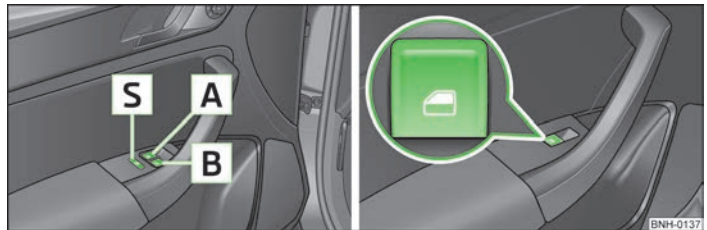

Fig. 17 Buttons on the driver's door/in the rear doors
- It is recommended to deactivate the electrical power windows in the rear doors (safety pushbutton **S**) » Fig. 17 on page 32 when children are being transported on the rear seats.
The buttons for electrical power windows in the rear doors can be deactivated by pressing the safety pushbutton **S** » Fig. 17. The buttons for the electrical power windows in rear doors are activated again by pressing the safety pushbutton **S** again. ▶